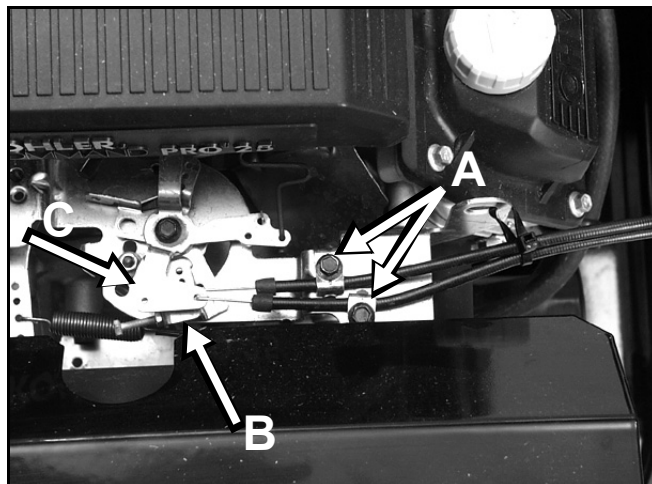

Figure 23
7. Remove the clamps securing the choke and throttle cables. Then remove the Z bends from the choke and throttle levers (Figure 23).